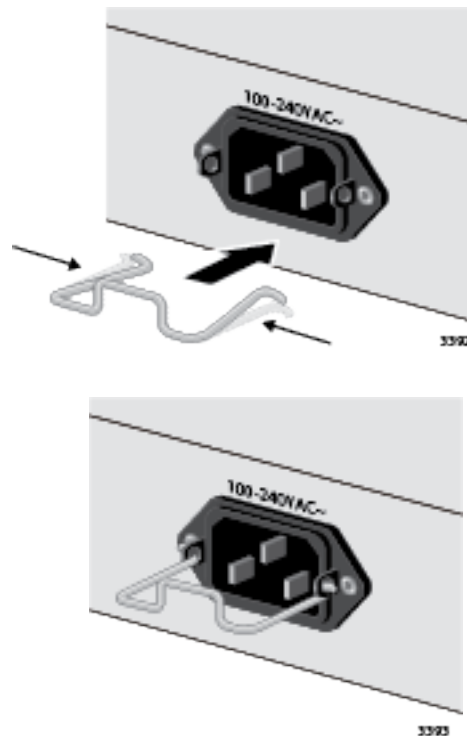

Figure 14. Installing the Power Cord Retainer Clip
1. Install the power cord retaining clip on the AC power connector on the rear panel of the switch. See Figure 14.